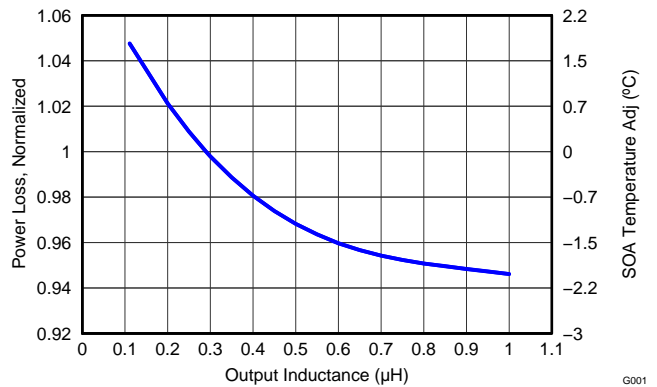

Figure 15. Normalized Power Loss vs Output Inductance
- Normalized Power Loss for output inductor  $\approx$  1.02 (Figure 15)
- SOA adjustment for output inductor  $\approx$  1.7 $^{\circ}$ C (Figure 15)